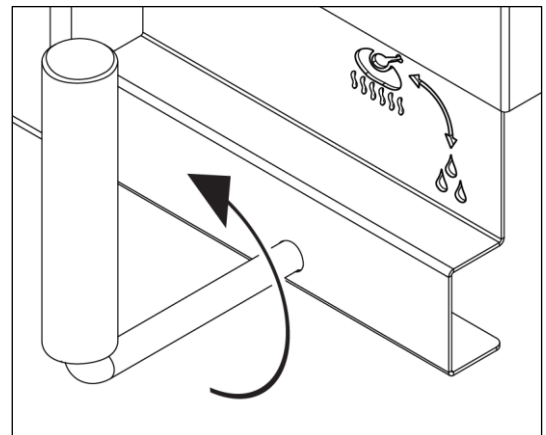

Figure 4-1
2. Make sure the Manual Drain Valve Handle is set to Cook  as shown in Figure 4-1.